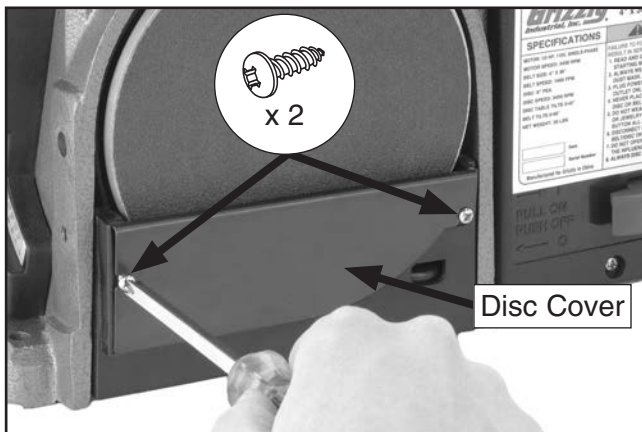

Figure 8. Installing disc cover.
2. Mount disc cover to holes in sander body near bottom of aluminium disc using (2) M4 x 8 tap screws, as shown in **Figure 8**.